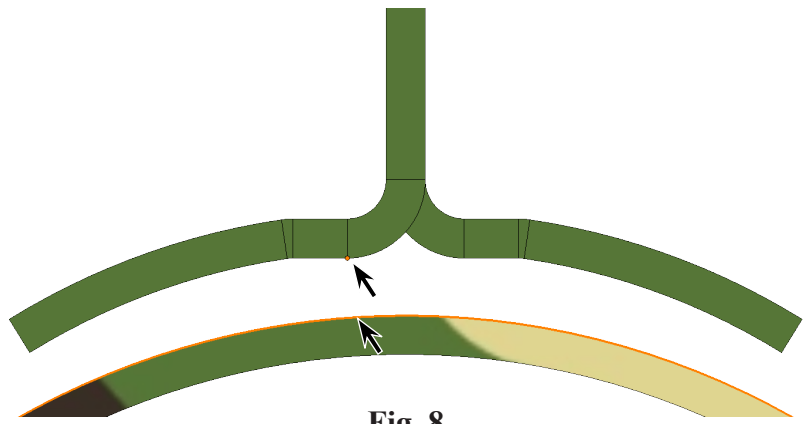

Fig. 8
Step 7. Click an **vertex on edge of Fin** and **outside edge of Body Tube**, **Fig. 8**.